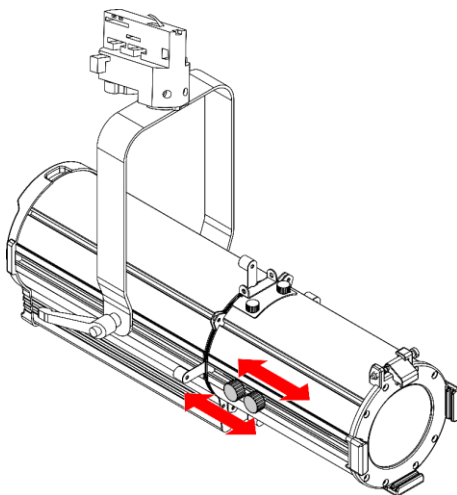

Fig. 19
- 01) Turn the **focus control (15)** and the **zoom control (14)** counterclockwise to loosen them.
- 02) Slide the controls forwards or backwards to adjust the zoom and the focus (see Fig. 19).
- 03) Once the fixture is focused, turn the **focus control (15)** and the **zoom control (14)** clockwise to tighten them. Do not overtighten them.